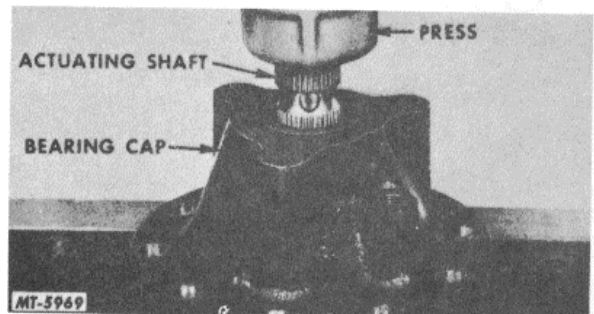

Fig. 17
14. Press actuating shaft from the bearing cap, Fig. 17. Do not dismantle the actuating shaft, as it is only furnished as an assembly.